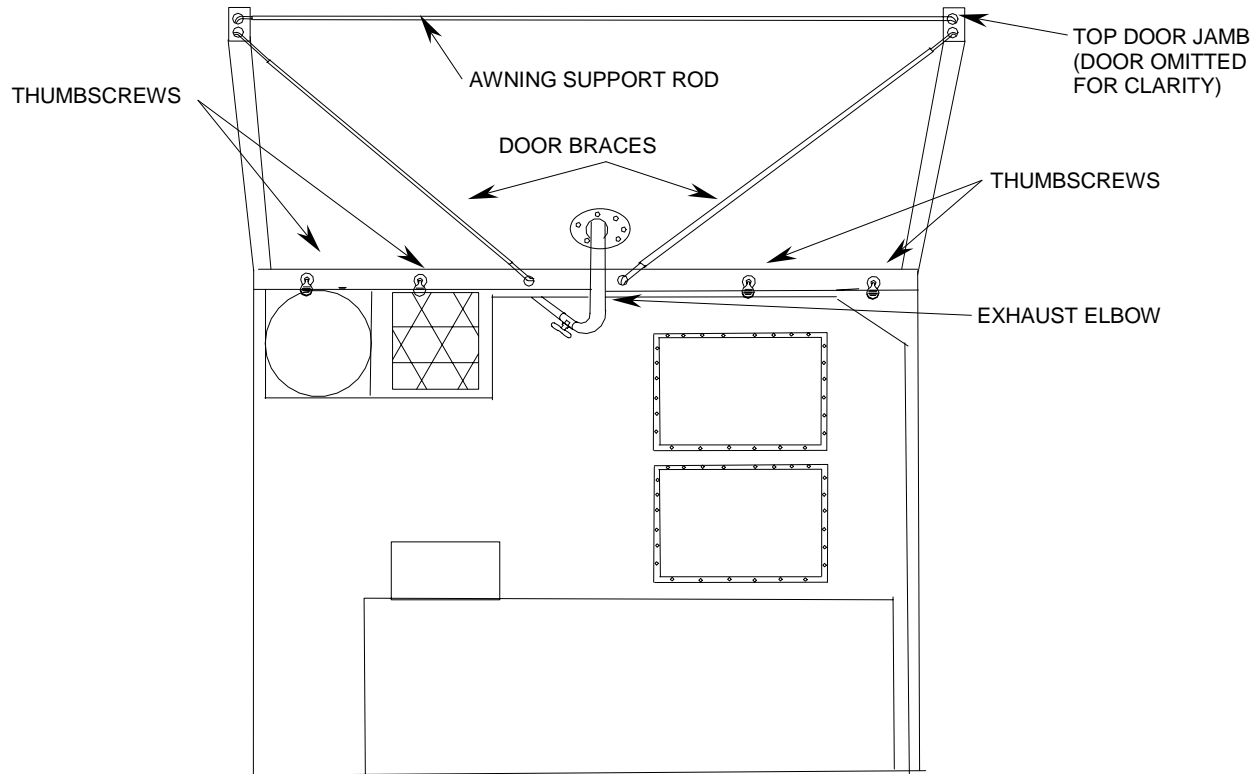

Figure 11. Awning Installation.
3. Retrieve the awning from its storage location on top of the generator. Referring to Figure 11, attach the awning by screwing the four thumbscrews into the threaded holes along the top jamb of the mechanical room door frame.
**CONTAINERIZED KITCHEN (CK)